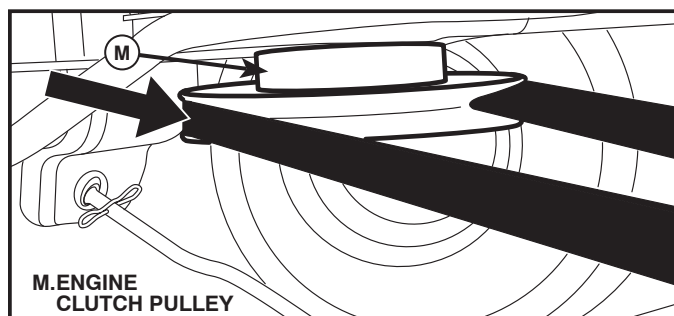

Fig. 15
## 9 INSTALL BELT ON ENGINE CLUTCH PULLEY (M) (See Fig. 15 & 7)
- Disengage belt tension rod (K) from locking bracket (L).
- Install belt onto engine clutch pulley (M).